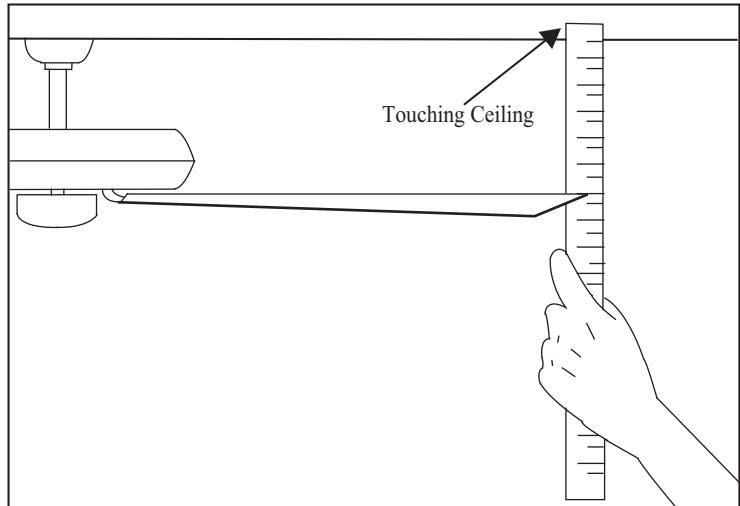

Figure 18
2. Most fan wobble problems are caused when blade levels are unequal. Check this level by selecting a point on the ceiling above the tip of one of the blades. Measure from a point on the center of each blade to the point on the ceiling. Measure this distance as shown in Figure 18. Rotate the fan until the next blade is positioned for measurement. Repeat for each blade. Measurements deviation should be within  $1/8"$ . Run the fan for 10 Minutes.